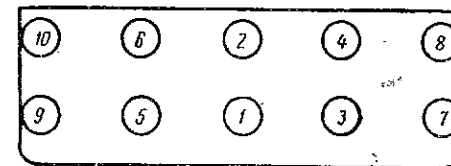

Fig. 4. Cylinder Head Nut Tightening Sequence
1. Tighten the cylinder head nuts in the sequence shown in Fig. 4; this operation should be performed with a torque indicating wrench or with a special wrench furnished with the car. Do it without jerks and on cold engine only. A torque of 6.7 to 7.2 kgm should be exerted. Avoid overtightening these nuts to prevent breaking of the studs.